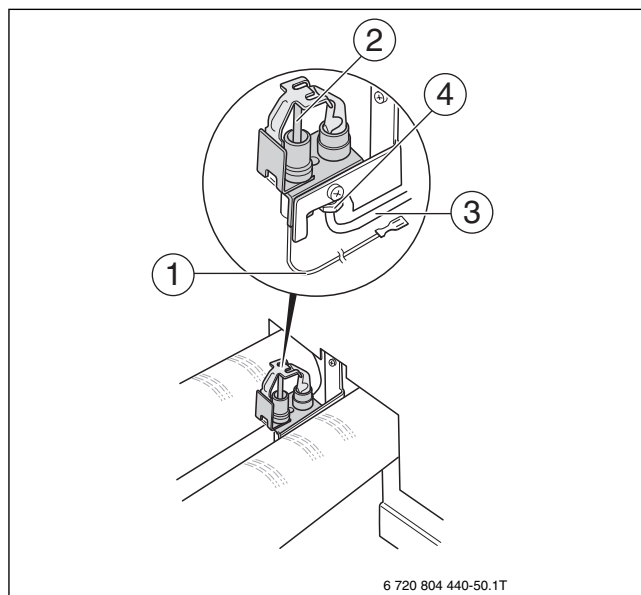

Fig. 39 Ignition burner
- If the flame is too small, the pilot orifice needs cleaning (→ figure 39, page 23). If the igniter flame is acceptable, start cleaning.